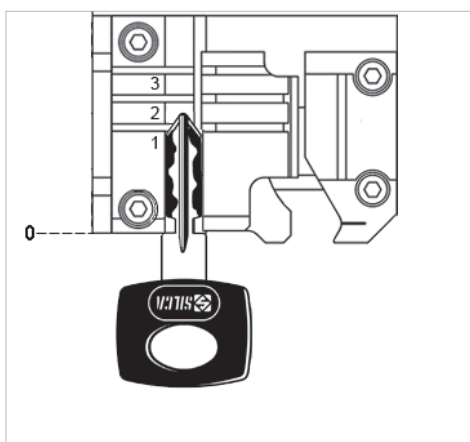

Fig. 40
- 0: for keys with back stop (towards head - Fig. 40).